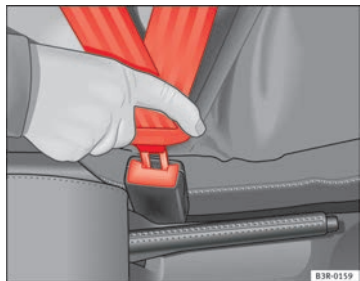

Fig. 12 Belt buckle and latch plate of seat belt
- Insert the latch into the buckle for the appropriate seat and push it down until it is securely locked with a click ⇒ Fig. 12.